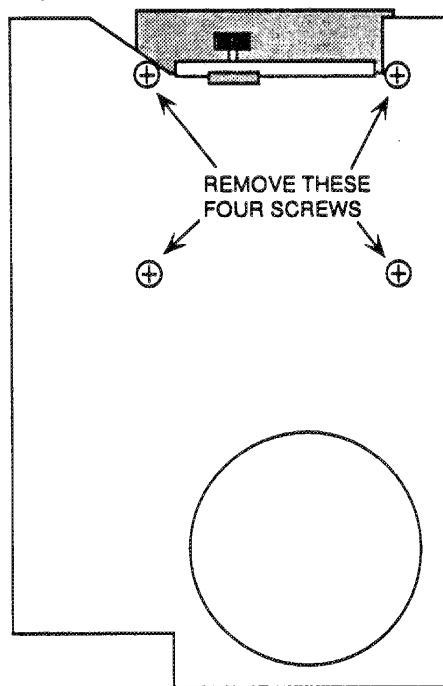

Figure 17 Lisa disk drive removal.
4. Remove the internal disk drive by tilting the drive cage forward and loosening four Phillips-head screws at the bottom. Use a #1 Phillips-head screwdriver. Support the drive with one hand as shown in Figure 17.